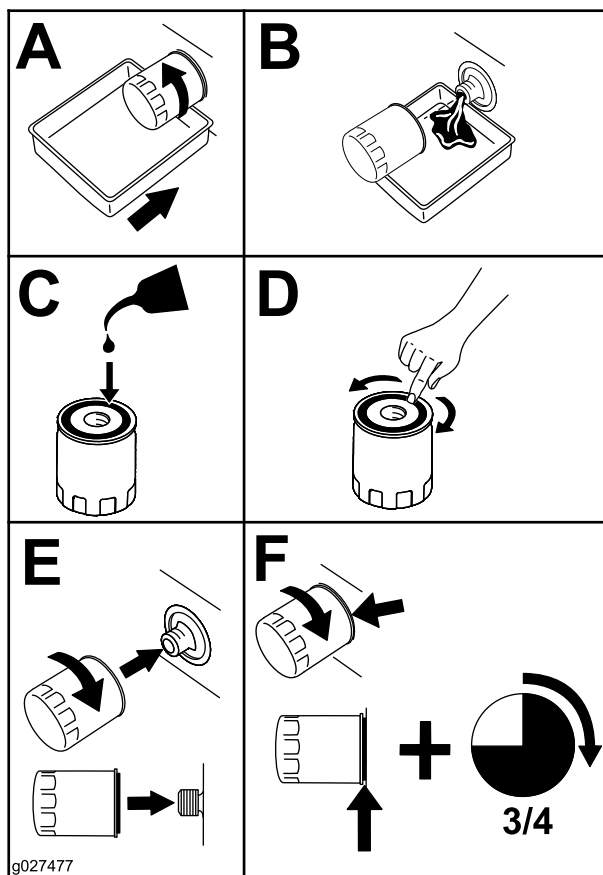

Figure 53
2. Change the engine-oil filter (Figure 53).